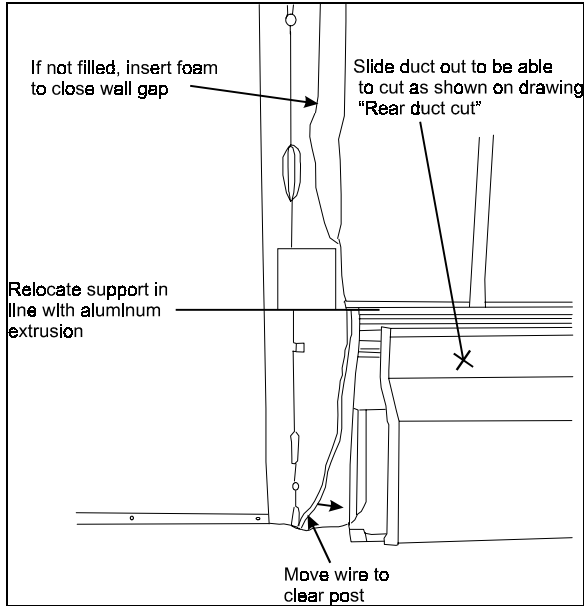

FIGURE 14
1. Remove cap end and discard (refer to figure 14).